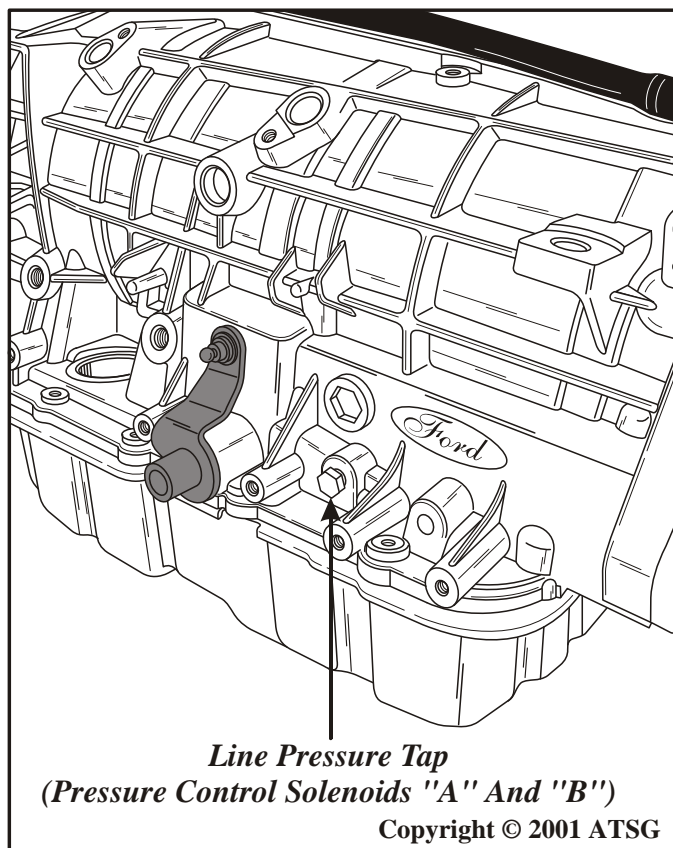

Figure 187
8. Check and ensure that both oil pressure plugs are tight, as shown in Figures 187 and 188.